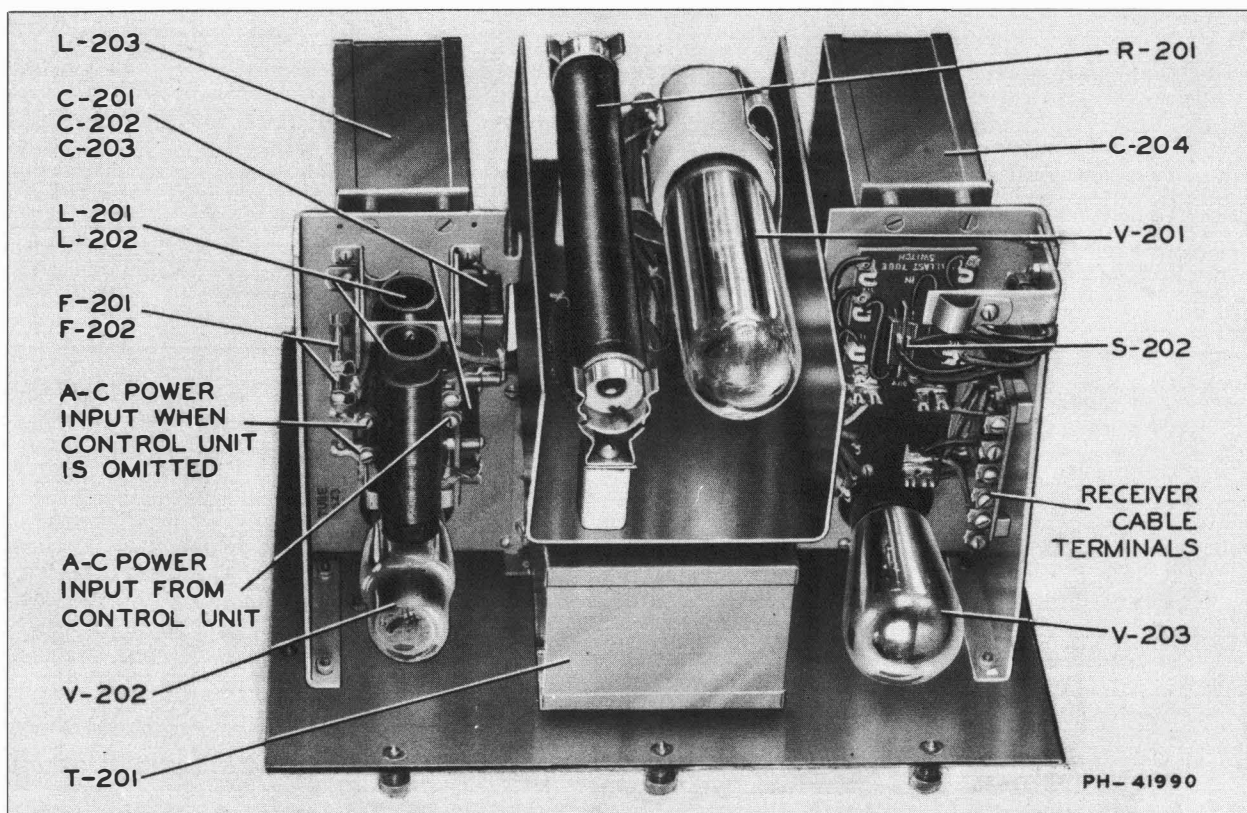

Figure 4—Power Unit CRV-20131 (Top View of Chassis—Covers Removed)
- 9.5-7 Referring to Figure 16, it will be observed that four terminals are provided for connecting the 110-, 115-, or 120-volt, 60-cycle supply to the power unit. When this equipment is used with the control unit, the power connection from the control unit to the power unit is made to the two right-hand terminals. When no control unit is employed, the connection is made to the left-hand terminals. Connecting to the two right-hand terminals removes the power switch on the panel from the circuit. (See Figure 4.)